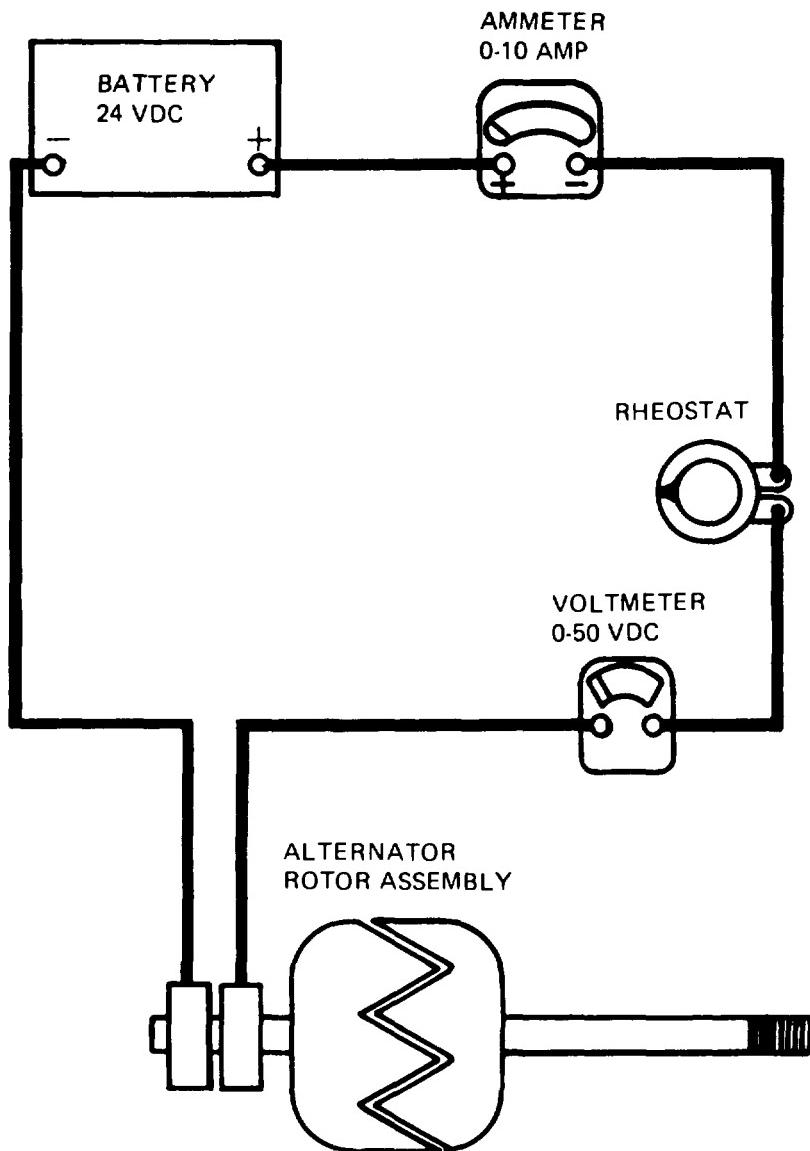

Figure 3-6. Rotor Assembly Current Draw Test Circuit
- (7) Using an ohmmeter, check continuity of each phase of stator assembly. Replace stator assembly if ohmmeter indicates open circuit of one or more phase.
- (8) Visually inspect rotor assembly for rub marks and burns or other evidence of shorting. Inspect shaft for worn key slot and bearing surfaces.
- (9) Test rotor assembly as follows:
- (a) Install rotor assembly in test setup shown in figure 3-6.
- (10) Replace rotor assembly if inspection and test requirements are not met.
- (11) Inspect voltage regulator connector, cover assembly, and voltage adjust for cracks, corrosion, and evidence of shorting or other damage.
- (12) Inspect fuse holder for cracks, corrosion, and other damage. Check fuse for burned out condition. Check fuse for continuity if in doubt.
- (13) Inspect brush assembly for corrosion and excessive wear.
(a) Install alternator in test circuit as shown in figure 3-6.